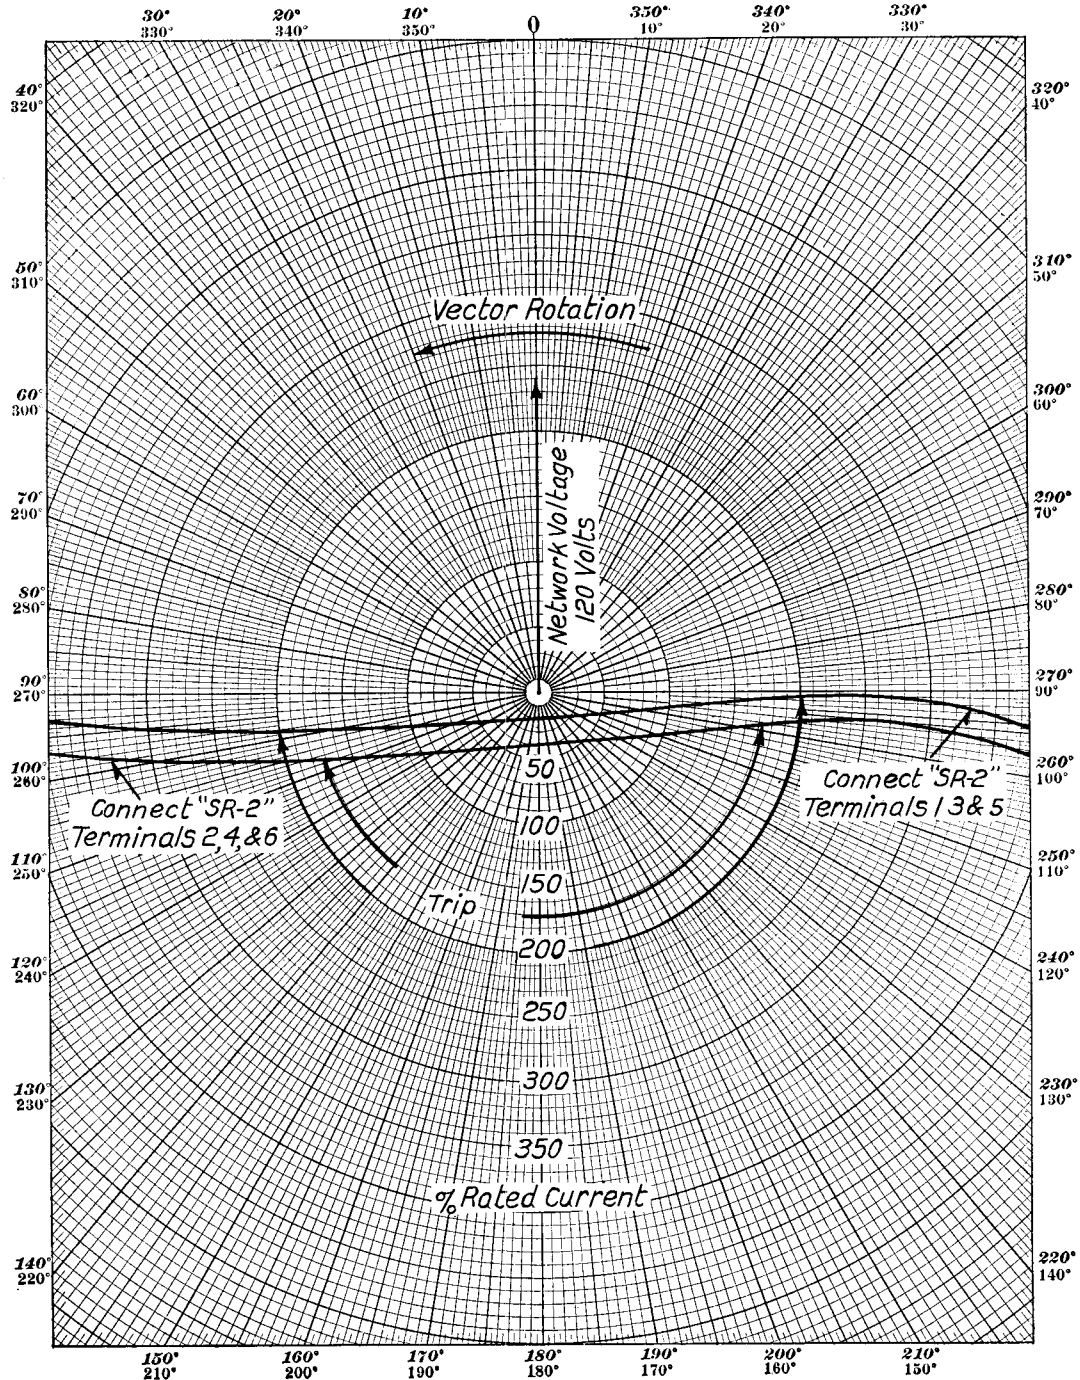

FIG. 5—OPENING CHARACTERISTICS OF THE TYPE CN-33 NETWORK MASTER RELAY WHEN THE TYPE SR-2 VOLTAGE RESTRAINING RELAY IS IN THE NORMALLY ENERGIZED POSITION.
4. Only three terminal screws are supplied in the upper terminal block of the type SR-2 relay. The other three terminals are provided with short dummy screws to keep dust and dirt from entering the relay base. With these terminal screws located in terminals No. 1, No. 3, and No. 5 all of each tapped resistor in the SR-2 relay is connected in series with a phasing circuit of the CN-33 relay. Under this condition an in-phase reversal of approximately 20% of the protector rating is required to close the tripping contacts of the type CN-33 relay. By placing the three terminal screws in terminals No. 2, No. 4 and No. 6 only a portion of each tapped resistor in the SR-2 relay is connected in series with a phasing circuit of the CN-33 relay, and an in-phase reverse current setting of approximately 40% of the protector rating is obtained. The opening curve of the type CN-33 when the type SR-2 relay is in the normally energized position, so that the CN-33 relay phasing coils are functioning as restraining coils, is shown in Fig. 5. The SR-2 relay provides these in-phase reverse current
sensitive directional relay which will operate quickly and positively to trip if the fault is located so as to cause a reversal of power through the protector. Fig. 5 shows the CN 33 trip characteristics under restrained conditions.